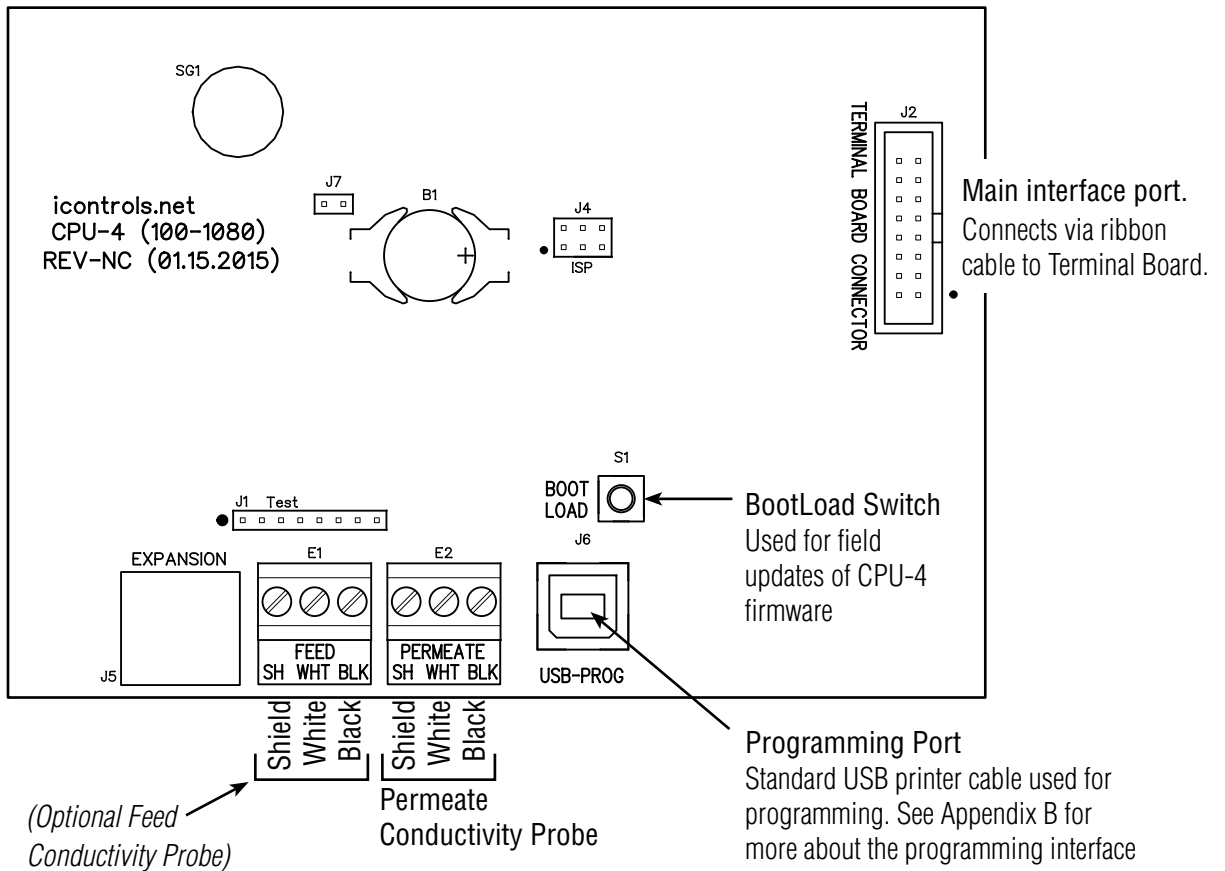

Figure 4. Controller Detail: Terminal Board, TB-1 (See Fig. 1 for schematic)
3. Bring the wires from the peripheral devices into the enclosure and connect them to the appropriate terminals. (See *Figure 1, Figure 3 and Figure 4.*)
4. Set the voltage selector switch on the Terminal Board to the desired voltage (120VAC or 240VAC) (See *Figure 4.*)
5. Install the correct power fuse for your voltage/motor HP. See the table below and *Figure 4.* Values shown are 115-125% of the FLA Amperage per the NEC/UL tables.